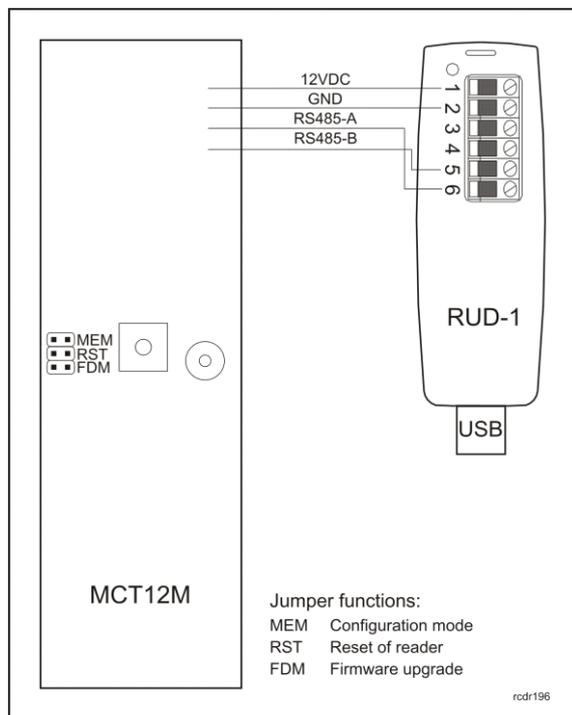

Fig. 2 Connecting reader to RUD-1 interface for firmware upgrade.
1. connect reader to RUD-1 interface according to Fig. 2;
2. put jumper on FDM contacts (location of contacts is given on Fig. 2);